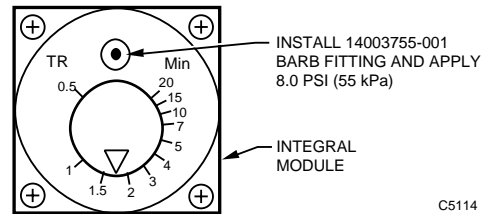

Fig. 13. Integral module piping.
1. Remove the integral module screw (Fig. 13) and install the 14003755-001 Barb Fitting and O-ring in its place.